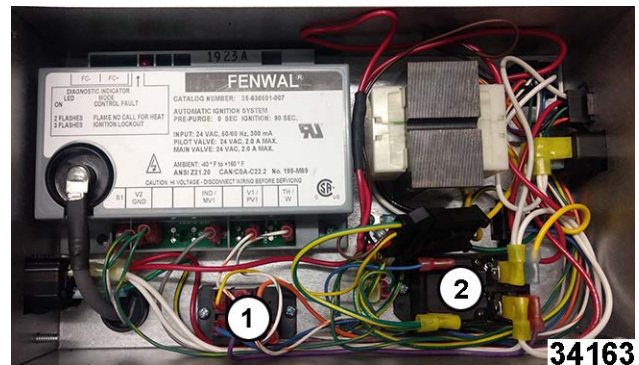

Fig. 36
3. Note and disconnect oil return solenoid relay (1, Fig. 36) and pump relay (2, Fig. 36) wiring.